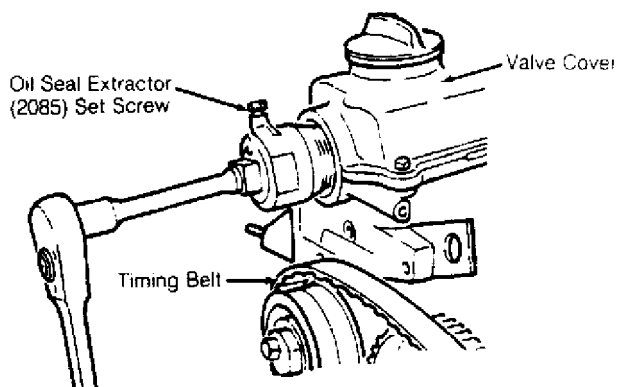

Fig. 12: Removing Camshaft Oil Seal
Remove timing belt. See TIMING BELT under REMOVAL & INSTALLATION. Rotate inner part of Oil Seal Extractor (2085) outward 2 turns and tighten set screw. See Fig. 12. Lubricate threaded area of extractor and push in as far as possible. Loosen set screw and turn inner part of extractor until oil seal is removed.
2) Rotate inner part of Oil Seal Extractor (2085) outward 2 turns and tighten set screw. See Fig. 12. Lubricate threaded area of extractor and push in as far as possible. Loosen set screw and turn inner part of extractor until oil seal is removed.